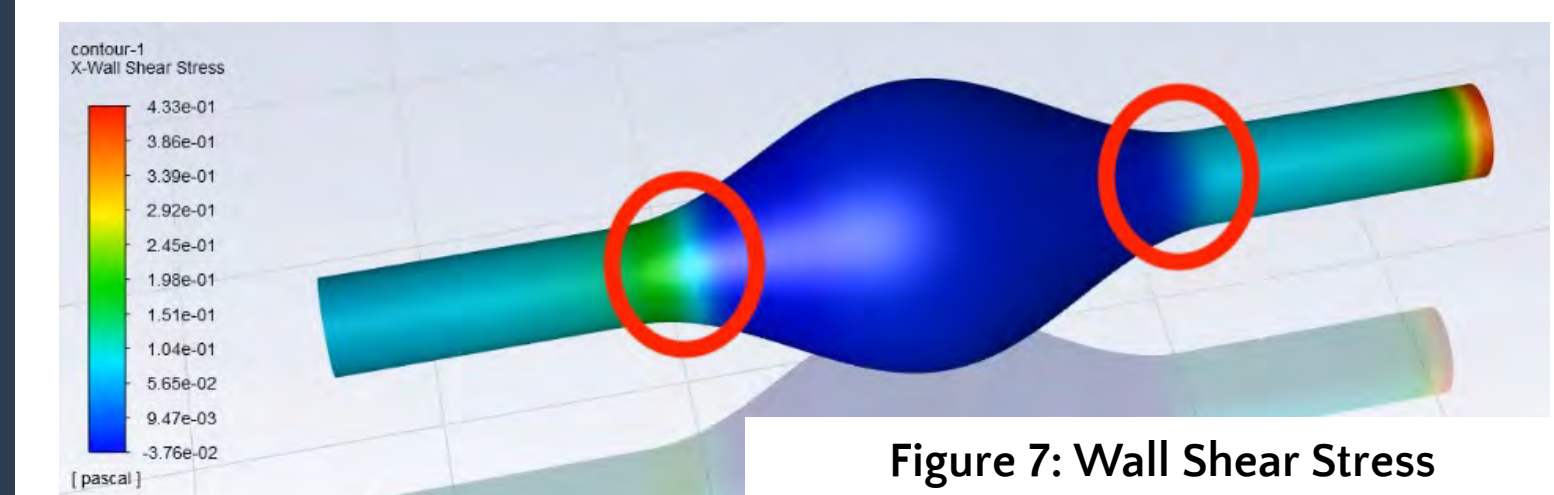

Figure 7: Wall Shear Stress
(2) The shear stress is greater at the outlet (left) of the aneurysm as shown in Fig. 7.